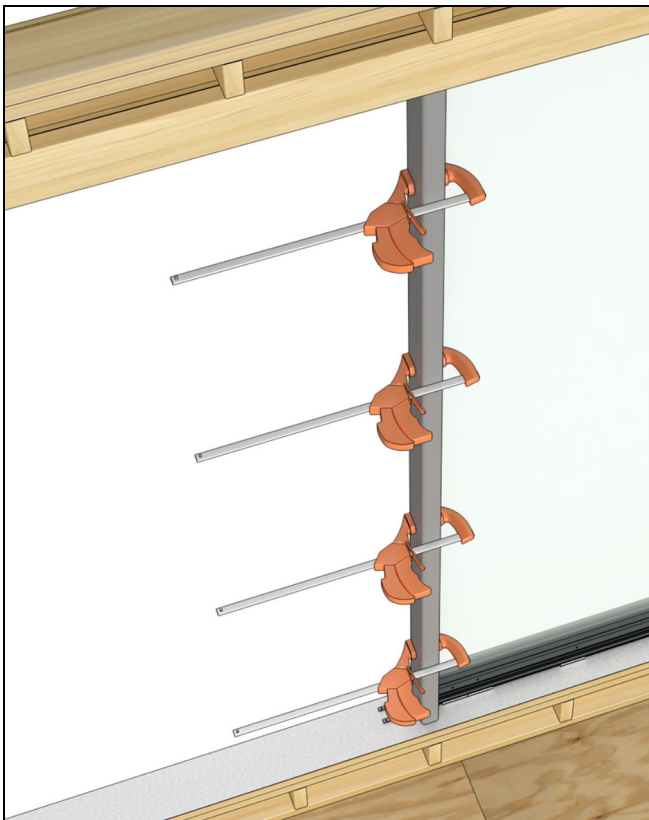

Figure 81
8. Insert the top bracket into the top end of the tube steel. Position the steel tight against the mull filler blocks, then clamp the steel to the frame. See Figure 79, Figure 80, and Figure 81.